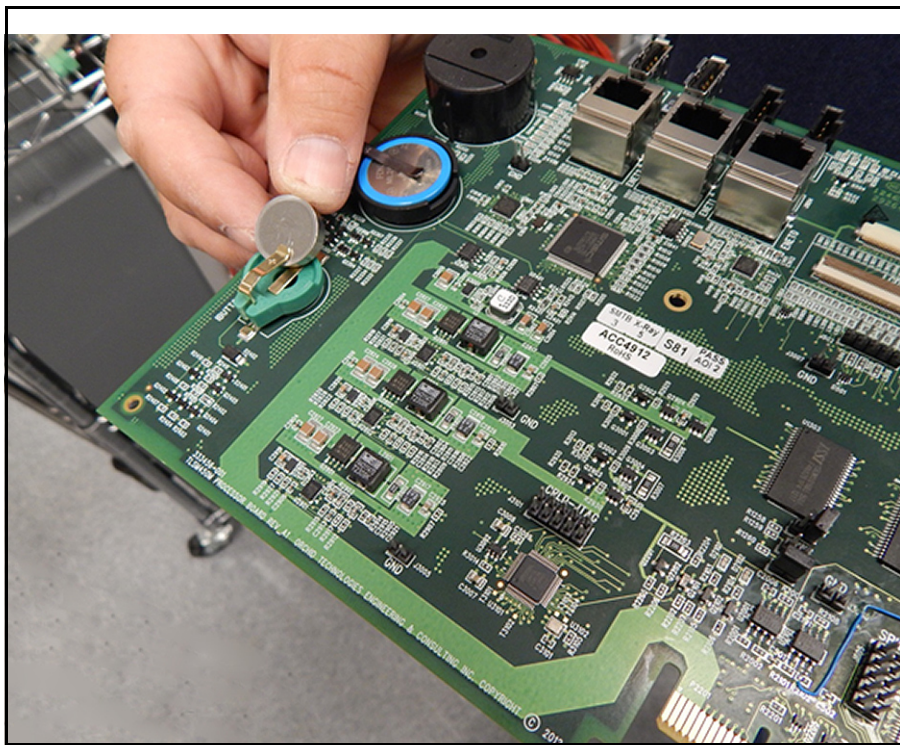
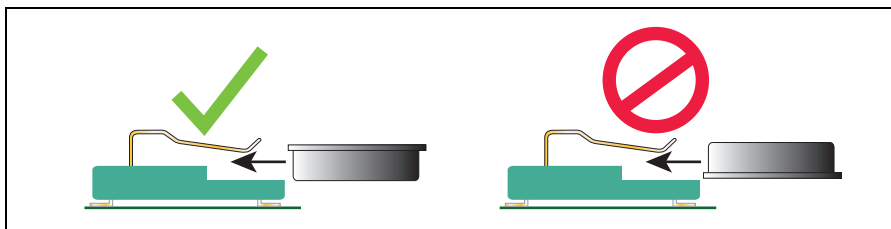

Figure 16. Locating TLS-450PLUS CPU Board iButton
Figure 17. Install iButton Flange Facing Up
2. Locate the iButton on the top rear of the TLS-450PLUS CPU board (see Figure 16). Remove the iButton from its socket on the board. Slide the replacement iButton into the socket with its flanged side facing up in the socket (see Figure 17).